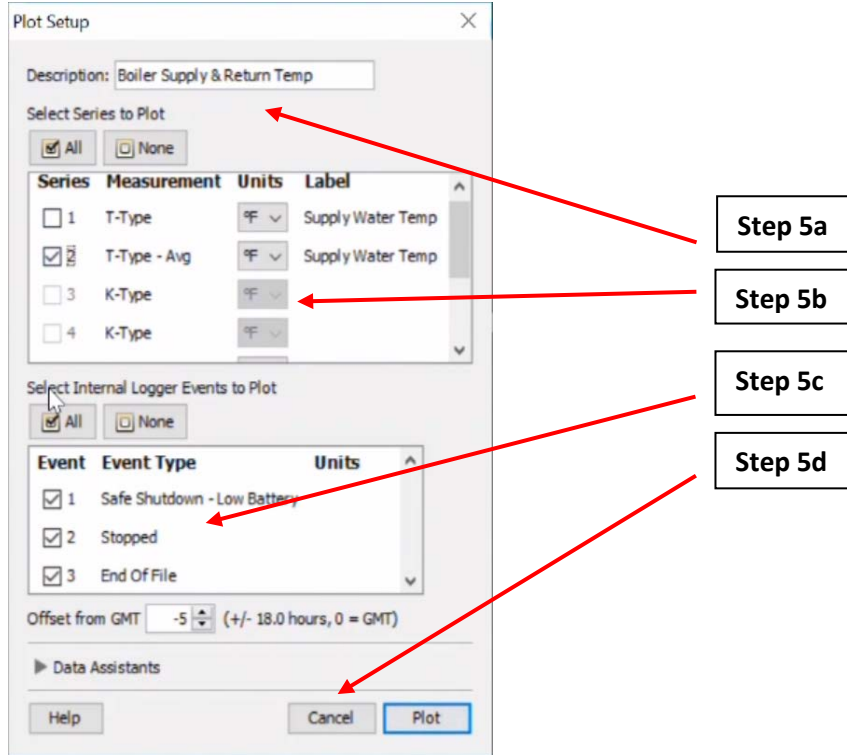

Figure A.12.14: “Plot Setup” pop-up window with the corresponding steps.
6. The Plot Setup window open as shown in Figure A.12.14. To set up the data series:
as shown on Figure A.12.14, for example. Note that for demonstration purposes, only the average temperature data series for the “Supply Water Temp” was checked off.